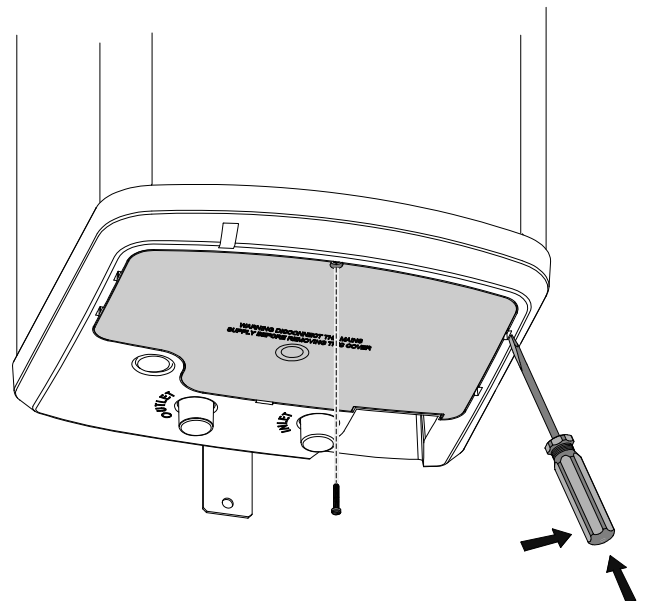

Figure 10: Cover removal
- ▶ When empty, Open the cover to the immersion heater housing. Remove the securing screw then release the cover by carefully inserting a flat bladed screwdriver into the slots around the cover and gently levering outwards until the catches release (see Figure 10, page 25).
- ▶ Open the cover to the immersion heater housing. Remove the securing screw then release the cover by carefully inserting a flat bladed screwdriver into the slots around the cover and gently levering outwards until the catches release (see Figure 10, page 25).